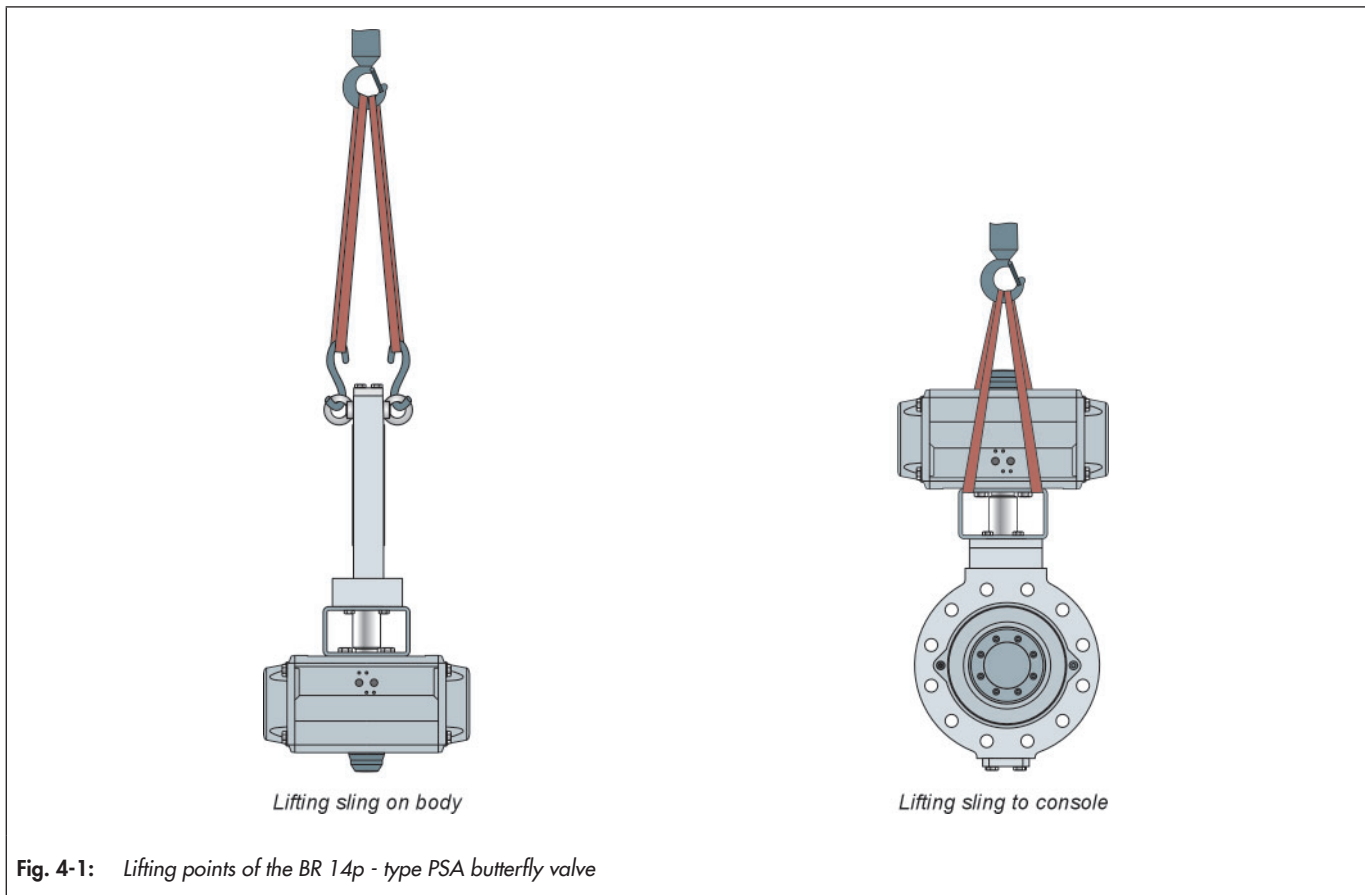

Fig. 4-1: Lifting points of the BR 14p - type PSA butterfly valve
- ⇒ Use a hook with a safety clamp as the suspension element so that the sling cannot slip off the hook during lifting and transport, see Fig. 4-1.
- ⇒ Fasten a lifting sling to each suspension element (e.g. hook) of the crane or forklift, see Fig. 4-1. When doing so, ensure the safety, bearing capacity and length of the lifting slings.
- ⇒ Fasten a lifting sling to the bracket and the suspension element (e.g. hook) of the crane or forklift, see Fig. 4-1. When doing so, ensure the safety, bearing capacity and length of the lifting slings.